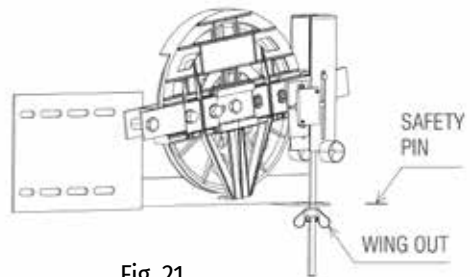

Fig. 21
- c- Tension pulley should be installed to guide rail of cab with help of clips. The should not be fully screwed fig. 21 for will be precise control.